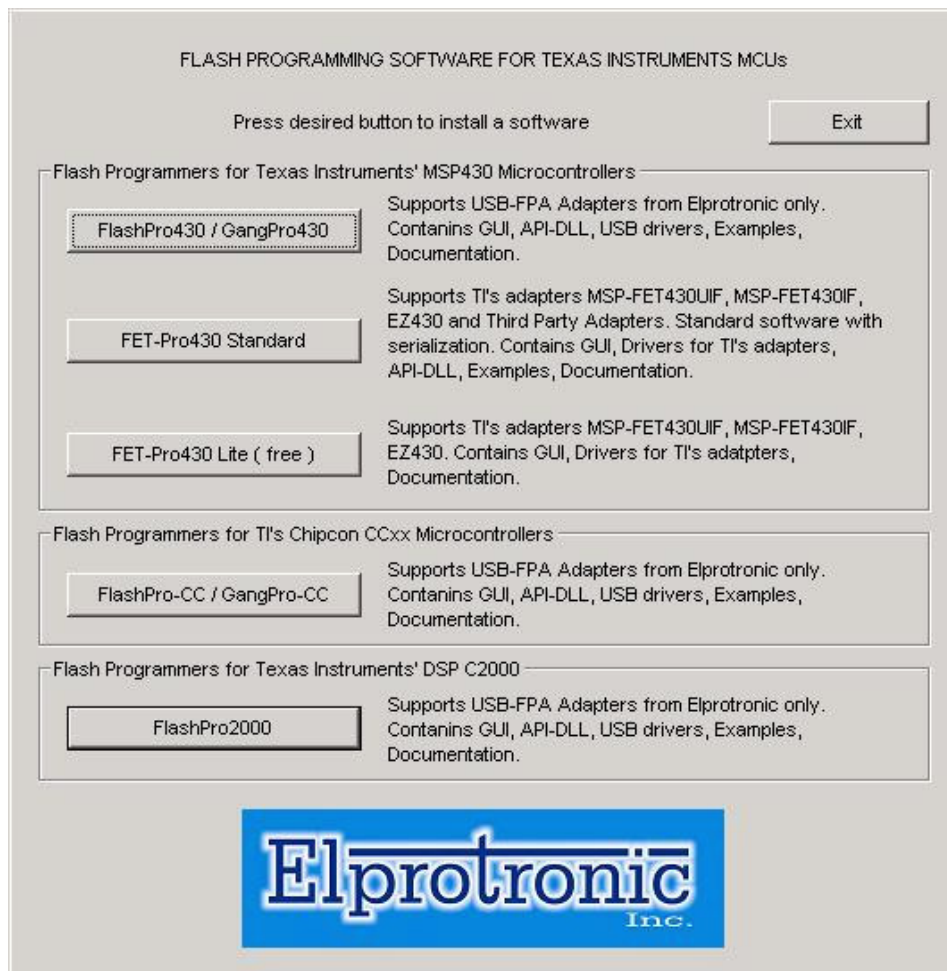

Figure 3.1-1
2. The Setup wizard appears automatically. Click *FlashPro2000* button to start the installation process (Figure 3.1-1).